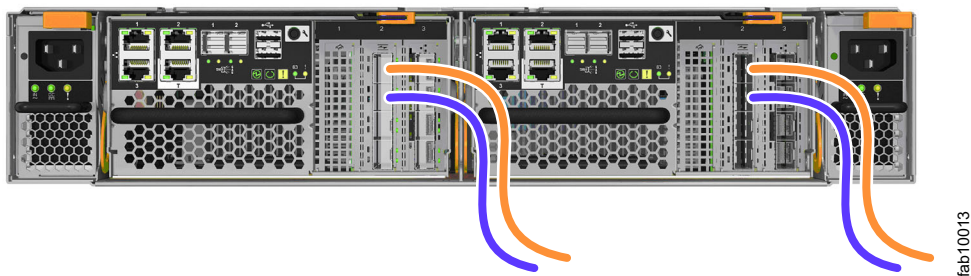

Figure 25. Example configuration with two Fibre Channel cables per canister
**Note:** Both canisters must have the same number of cables connected. Figure 25 shows an example configuration with two Fibre Channel cables connected to each canister.